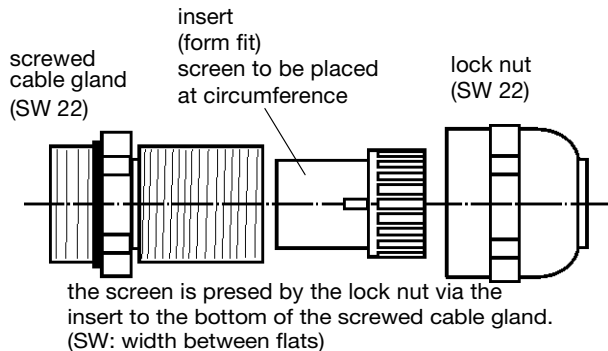

Figure 5. Metal screwing
**Installation (see Figure 5):**